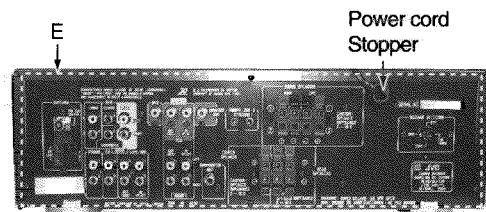

Fig.4
(3) Rear panel removal (Fig.4)